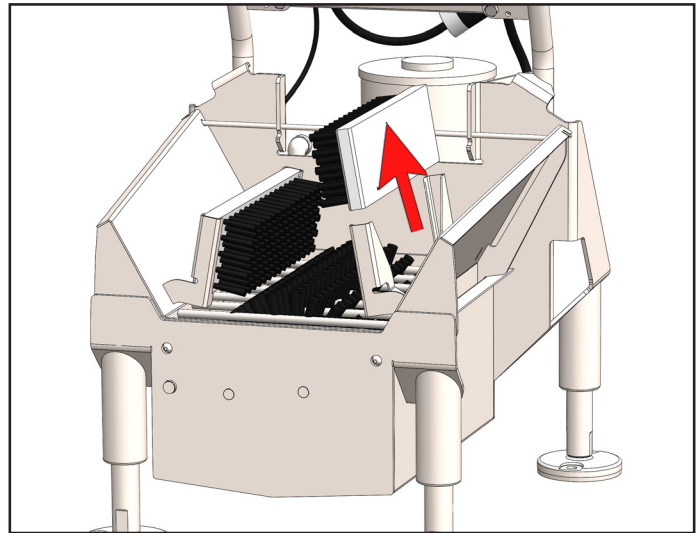

Fig. 8.1: Removing side brushes
2. Remove the two side brushes by lifting each of them up and out of their brackets [Figure 8.1].